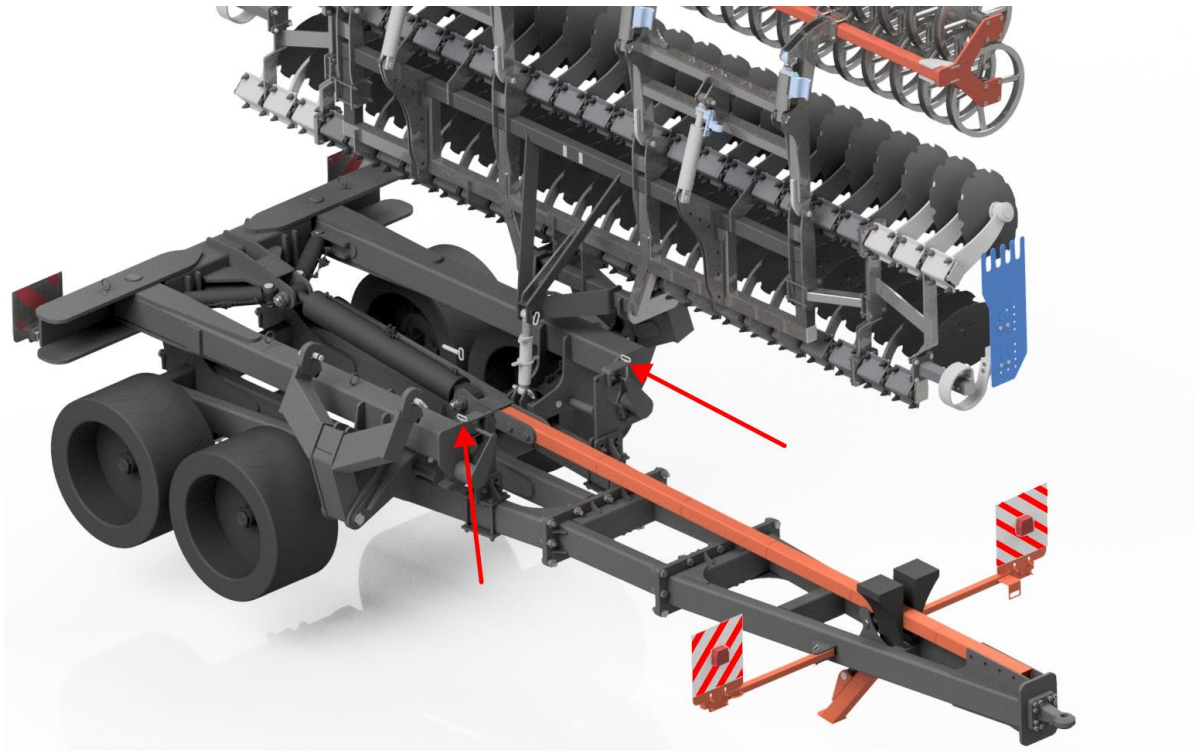

Figure 38 Location of pins preventing the machine wings from unfolding.
- 3) Remove the pins that prevent the machine wings from sliding out of the bumpers on their own (fig. 38),